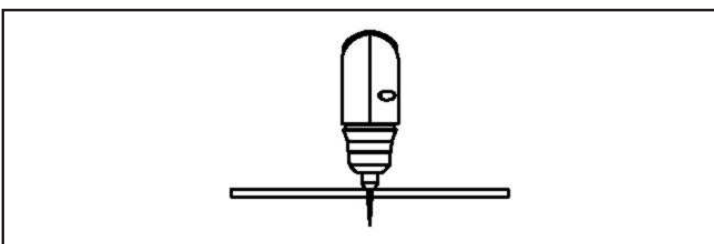

Figure 19
- Complete the pierce off the cutting line and then continue the cut onto the line. Hold the torch perpendicular to the workpiece after the cut is complete. Fig.19